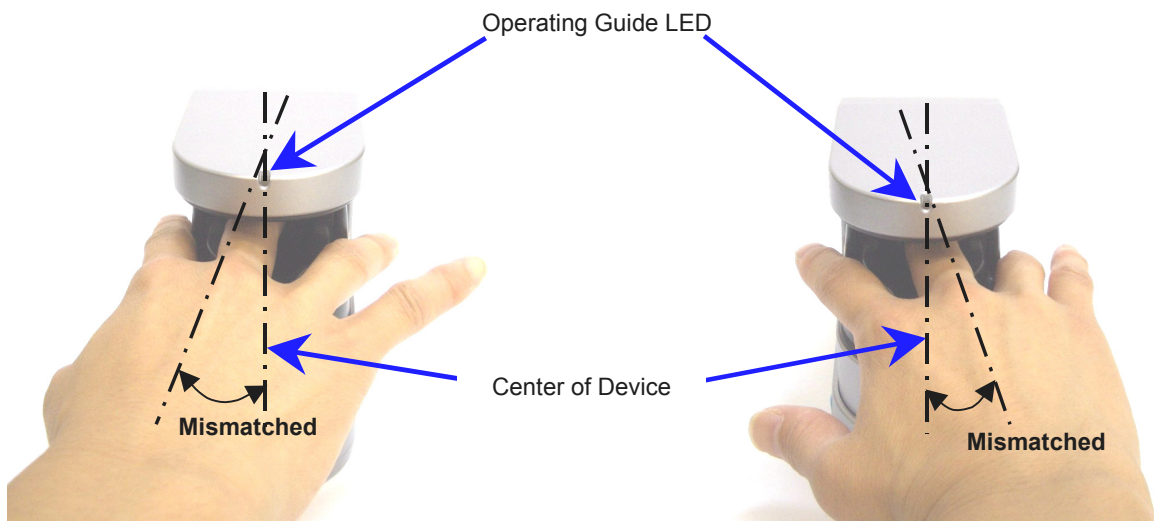

Fig 7 Wrong example (Not matched with the center axis)
- (1) Finger is not matched with the center axis (Fig 7)